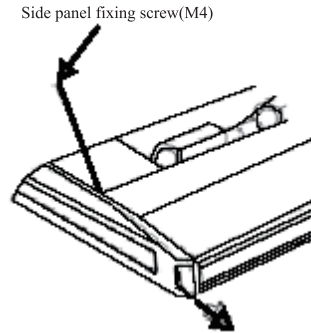

Fig.3
* Remove the side panel fixing screw and pull to the front direction (arrow direction) to remove. Side panel fixing screw. (Refer to Fig.3)